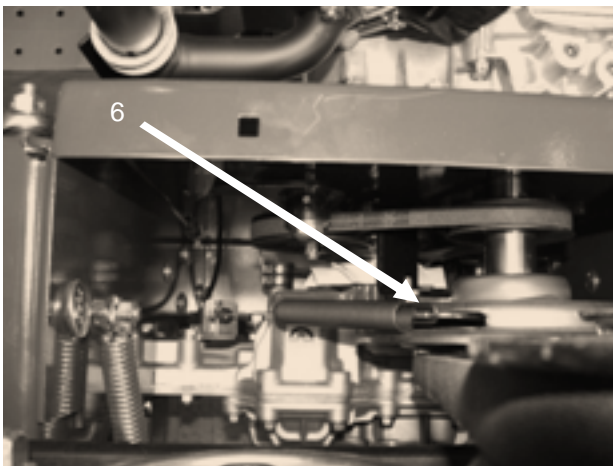

Figure 53
6. Disconnect the spring from the clutch engagement arm **Figure 53**.